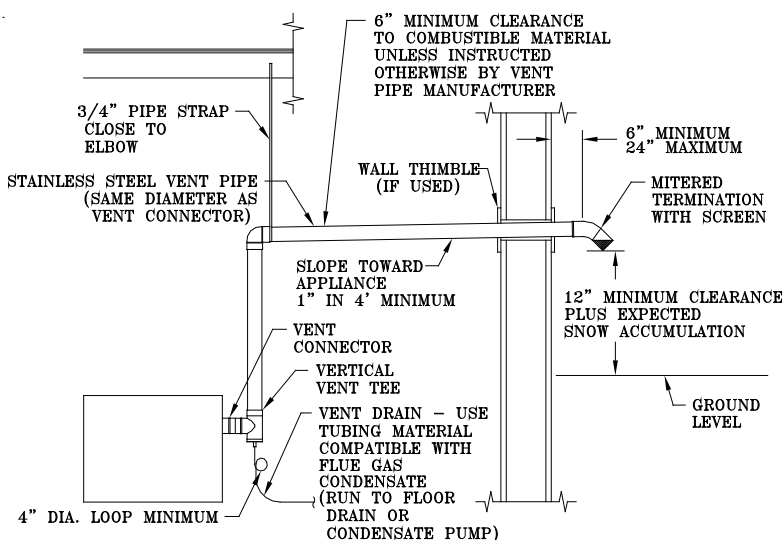

Figure 3: Side Top Vent
D. Separate Horizontal Venting System. See Figures 3, 4 and 5.
- e. Join vent terminal to vent pipe. Locate vent pipe such that vent terminal is between six (6) inches and twenty-four (24) inches from wall when joined to inside vent piping. See Figure 3 or 4.